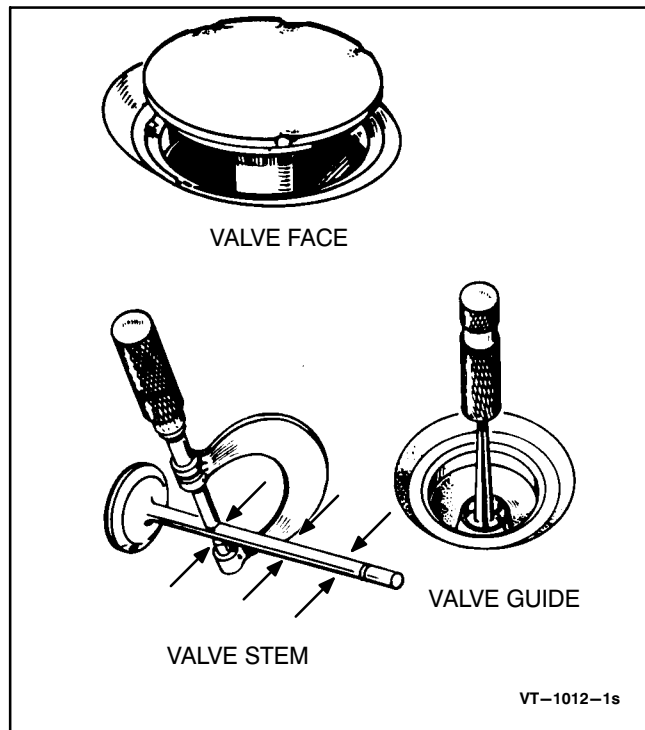

FIGURE 10-8. VALVE FACE, STEM, AND GUIDE
**Valve Face:** Check the valve face for evidence of burning, warping, out-of-round, and carbon deposits (see Figure 10-8 on Page 10-5).
**Stems and Guides:** Always check the stems and guides for wear as shown in Figure 10-8. Use a micrometer to measure the valve stem diameter in at least three locations. Use a hole gauge to measure the valve guide at several depths. When clearance with stem exceeds original clearance by 0.002 inch (0.05 mm), replace the valve or cylinder head, which includes the valve guide, or both.